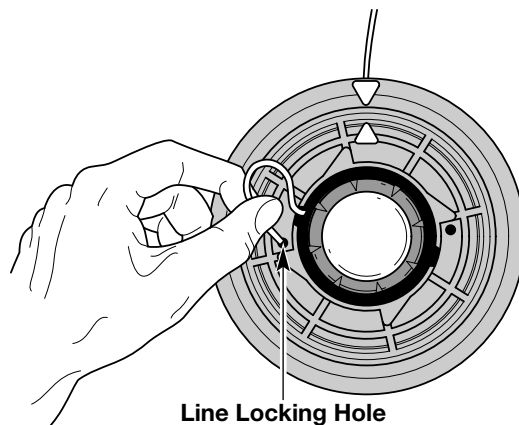

Fig. 18
5. Insert the line into the locking hole (Fig. 18). Do not push the line more than 1/2 inch (12.7 mm.) into the line locking hole. When inserted correctly the line will form a small loop (Fig. 18).